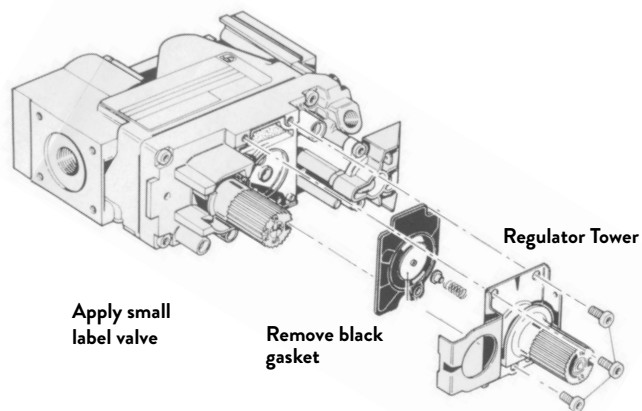

Figure 7.6. Regulator conversion.
6. **CHANGE THE VARIABLE REGULATOR TOWER** on the gas control valve. See fig. 7.6.